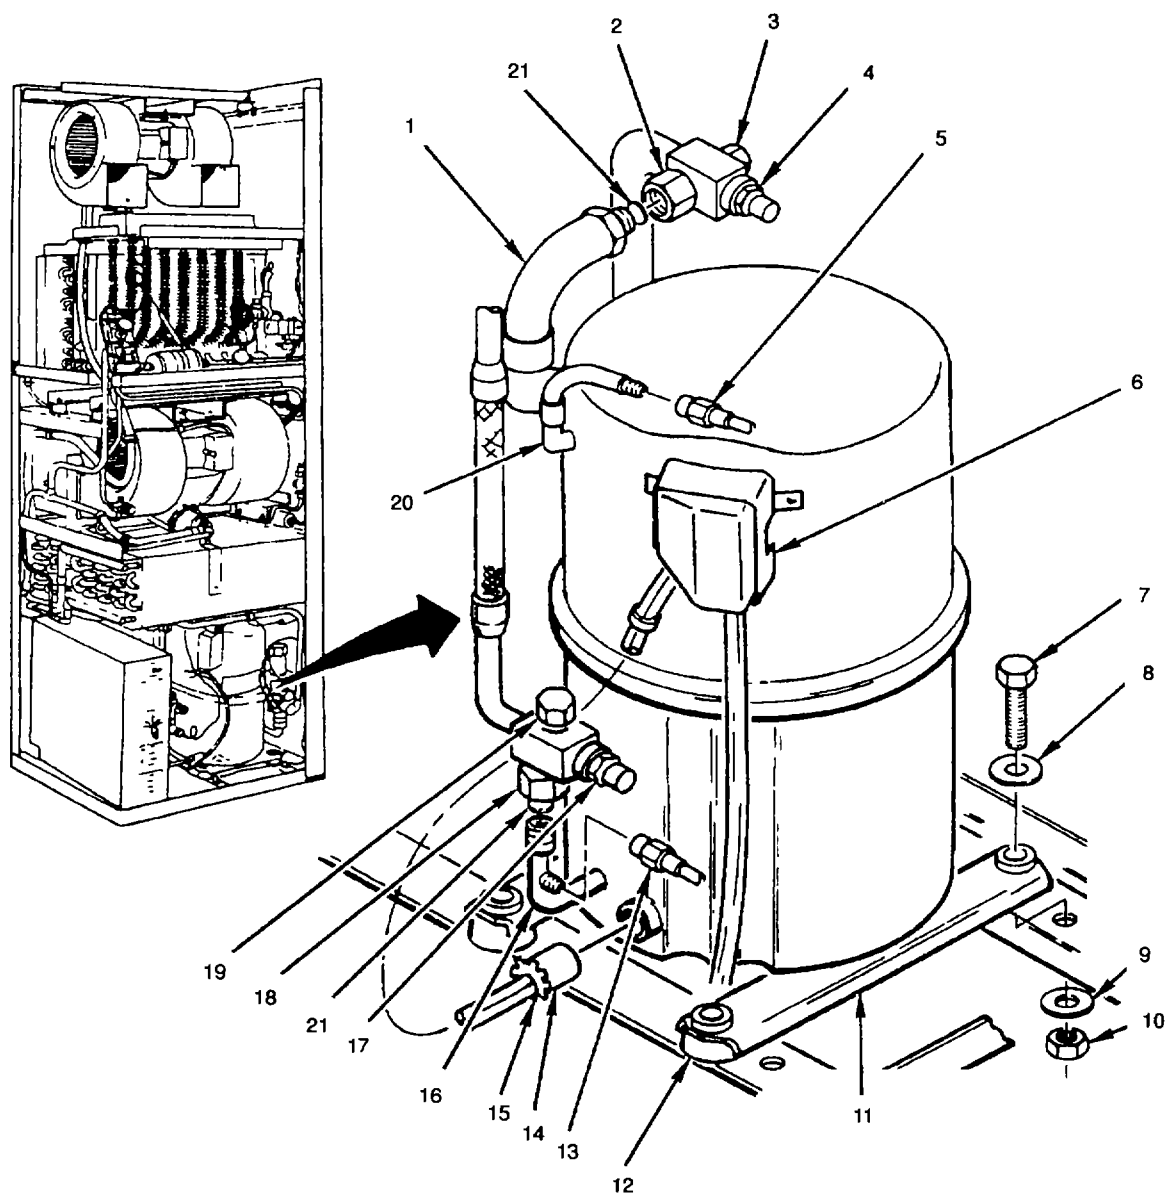

Figure 5-28. Compressor (B2) (Sheet 1 of 2)
- (1) Disconnect air conditioner input power at source,
- (2) Remove compressor section panel (paragraph 4.24);
- (3) Remove control box (paragraph 4.27);
- (4) Remove electrical access cover (6) (see fig 5-28); and
- (5) Tag and disconnect leads